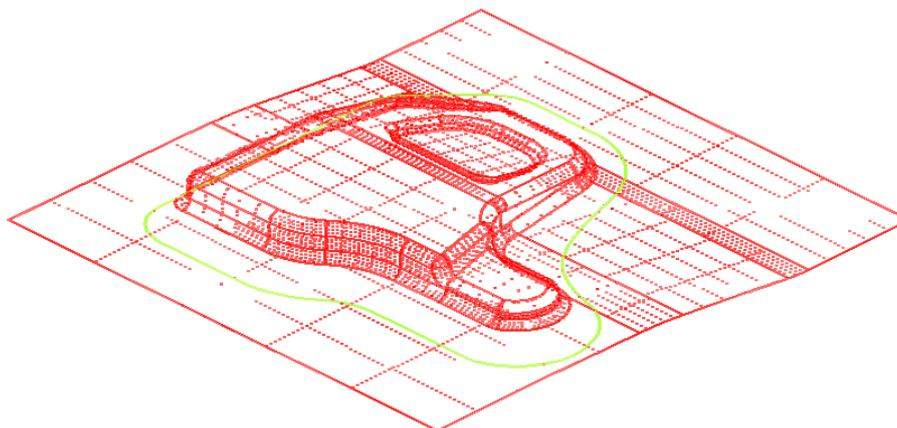

Figure 5.2 Illustration of model in Exercise 5
2. select the data file, following by clicking the **Import** button. Now, the model illustrated in Figure 5.2 is displayed on the display area.